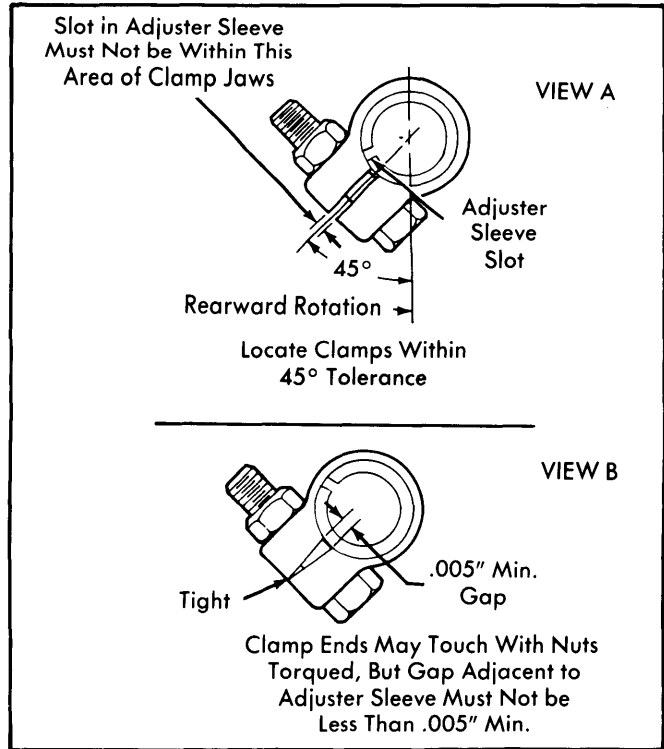

Fig. 6 Tie Rod Clamp Position "C", "K" and "P" Models
4) Before tightening tie rod adjusting sleeve clamp bolt, note the following: Clamps must be between locating dimples at either end of sleeve. Adjuster sleeve slot must not be within open area of clamp jaw opening (see Fig. 6 and 7).